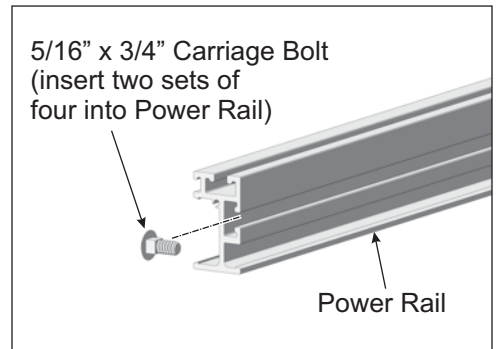

Figure 5-2: Pre-loading Carriage Bolts
- C. Pre-install two sets of four* 5/16" x 3/4" carriage bolts into the Power Rail. One set for each Power Rail U-bolt Bracket. (See Figure 5-2)